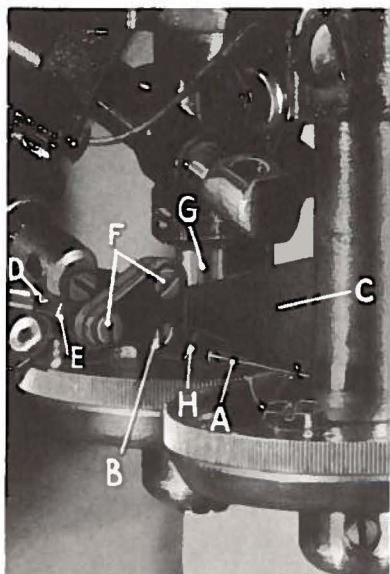

Fig. 6
With the short groove UP, put in a new needle (A, Fig. 6) Type 155 F, size as specified, in needle holder to maximum depth. Tighten screw (B).
Two measurements must be made simultaneously to assure proper needle position: The distance between the left side of the rear feed cup shaft and the right side of the needle holder is .008 inch (measured by gauge No. 21227 CB (C, Fig. 6); the distance from the underside of the needle blade to the top of the cup rims, which have been previously set level to each other, is .003 inch.
If needle stroke needs changing, loosen screw (D, Fig. 6) in needle bar collar, move needle bar extension and needle holder as one unit either forward or backward to meet the above condition, and retighten screw.